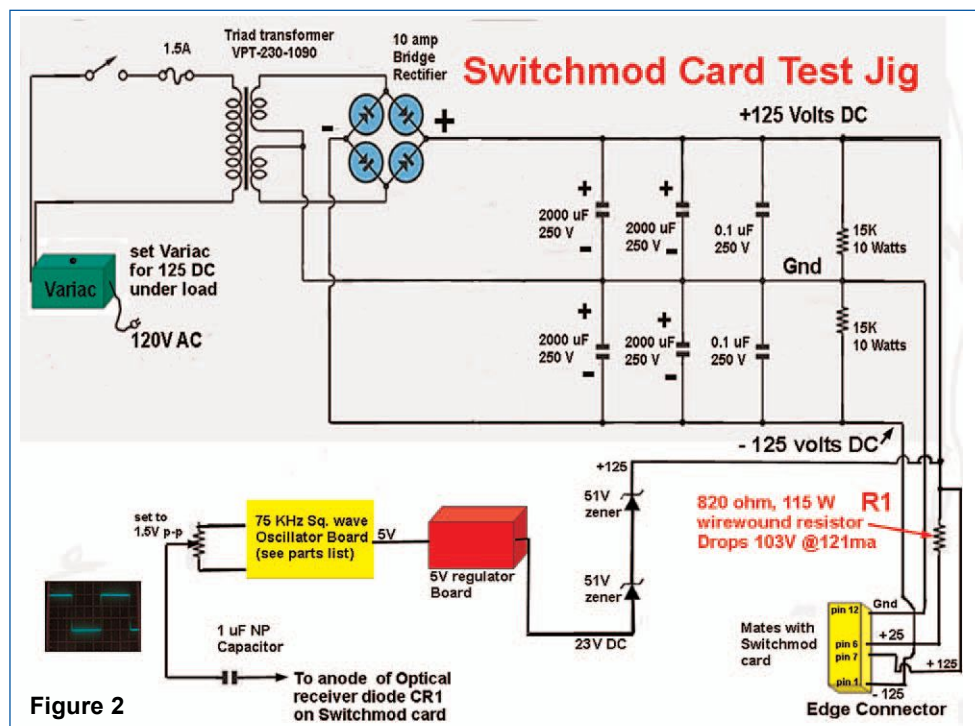

Figure 2
The power supply is straight forward – a diode bridge, electrolytic filters and bleeder resistors on the end for safety. (Refer to schematic, Figure 2) Adjust the Variac or series resistor for 125 Volts DC under load with the card in-place. The test card draws about one Amp off the power line and the 1.5 A fuse should be adequate. The edge connector was difficult to find. If you purchase the one in the parts list, you will need four (4) segments to make all 12 pins that the card requires. They just snap together.